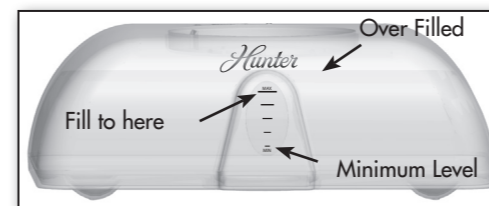

Figure 3.
4. Fill the tank with clean, cool tap water until the water level is up to the MAX mark in the Water Level Window. **DO NOT OVERFILL.** Figure 3.
The vaporizer will automatically stop producing steam when the water has reached the minimum level indicated by the water level in the window on the front of the unit. Figure 3. The power light will remain on indicating that the vaporizer is still plugged in. ALWAYS unplug the steam unit and allow to cool before removing the tank.